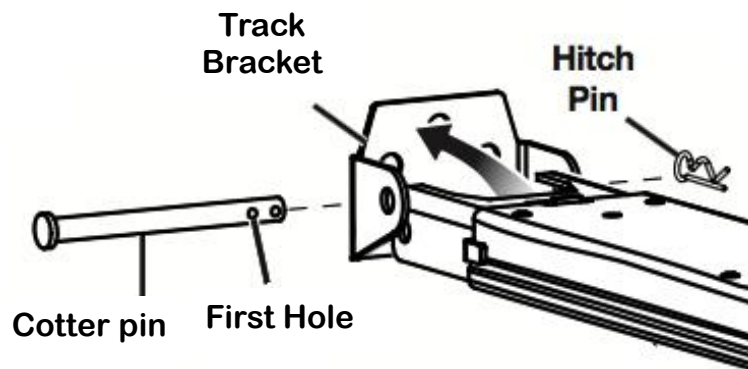

FIG. 6
2. Mount the steel track to the bracket. Align the holes in the bracket and the holes in the track, then insert the $\phi 8 \times 90$ cotter pin. Secure by installing the 1.8×38 hitch pin into the two holes of the cotter pin (FIG. 6)